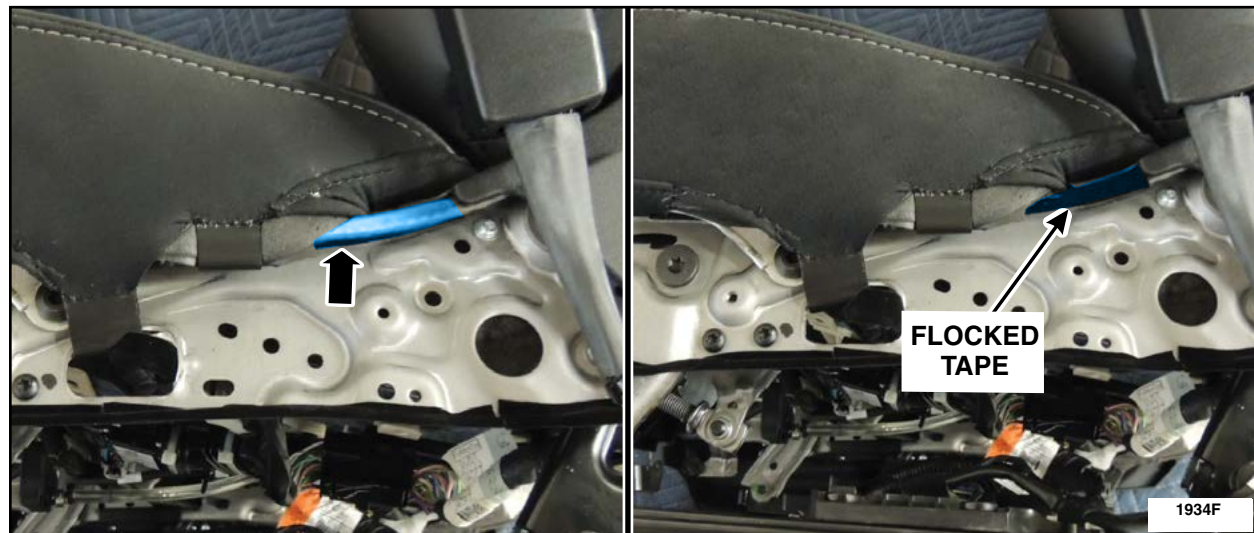

FIGURE 11
13. Using the second strip of 57.15 mm (2.25 in) flocked tape, peel the backing off and apply it to the seat frame upper edge. See Figure 11.